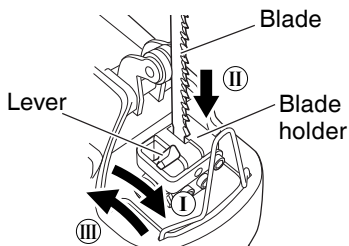

Fig. 2
- (1) Pull the lever up to the stop. (Fig. 2-I)
- (2) Remove fitted blade
- (3) Insert new blade up to the stop in the blade holder. (Fig. 2-II)
- (4) Release the lever. (Fig. 2-III)